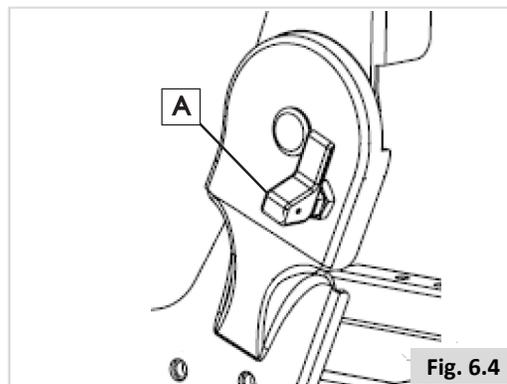

Fig. 6.4
- Locking Pin Lever (A) should be disengaged, Figure 6.4.